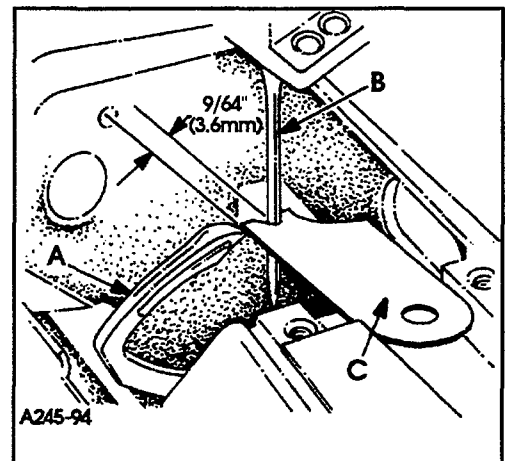
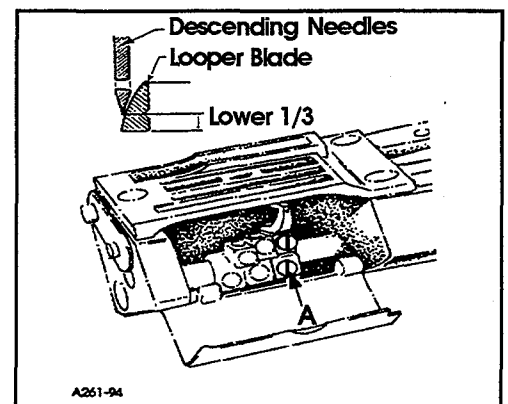

FIG. 6
FIG. 7
Insert a new set of needles, type and size specified. Always adjust the looper (A, Fig. 6) for the left needle first. Set the looper so that the distance from the center of the needle (B) to the point of the looper (A) is  $9/64"$  (3.6mm) when the looper is at its farthest position to the left. Looper gauge (C) No. 21225-9/64 can be used advantageously in making this adjustment. If adjustment is required, loosen screw (A, Fig. 7) in looper holder, permitting movement in either direction to attain the  $9/64"$  (3.6mm) dimension as shown in Fig. 6. Retighten screw (A, Fig. 7). Repeat for other needles and loopers.
Rotate handwheel in operating direction to assure that the looper point passes to the rear of the needle as close as possible without contacting. This adjustment can be made by loosening screw (A, Fig. 7) in looper holder. Looper holder can be moved front to back to attain looper to needle setting. Always check the  $9/64"$  (3.6mm) looper gauge setting after setting the looper to the back of the needle, and conversely, always check the setting of the looper to the back of the needle after setting the  $9/64"$  (3.6mm) looper gauge.
The looper avoid motion is adjustable and should be set so that the descending needle points contact the lower 1/3 of the back of the looper blade. (See Fig. 7).